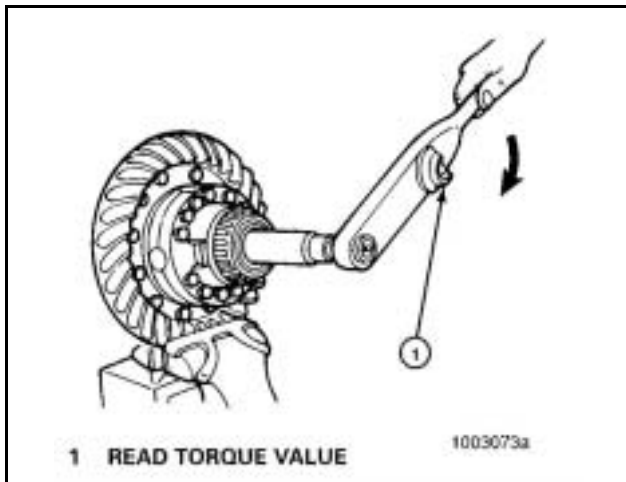

Figure 95
- d. Attach a torque wrench to the nut of the tool and rotate the differential gears. As the differential gears rotate, read the value indicated on the torque wrench. **Figure 95.**